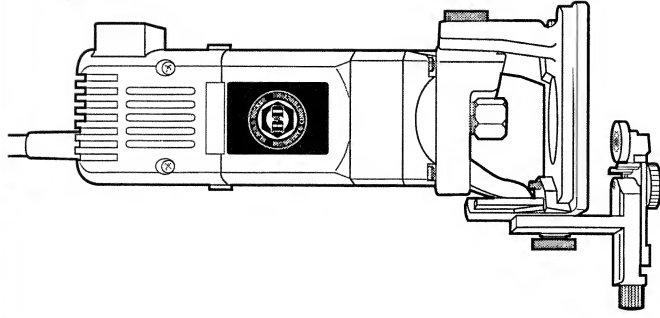

FIGURE 5
1. Mount copy follower to unit using depth adjustment knob. (See FIGURE 5)